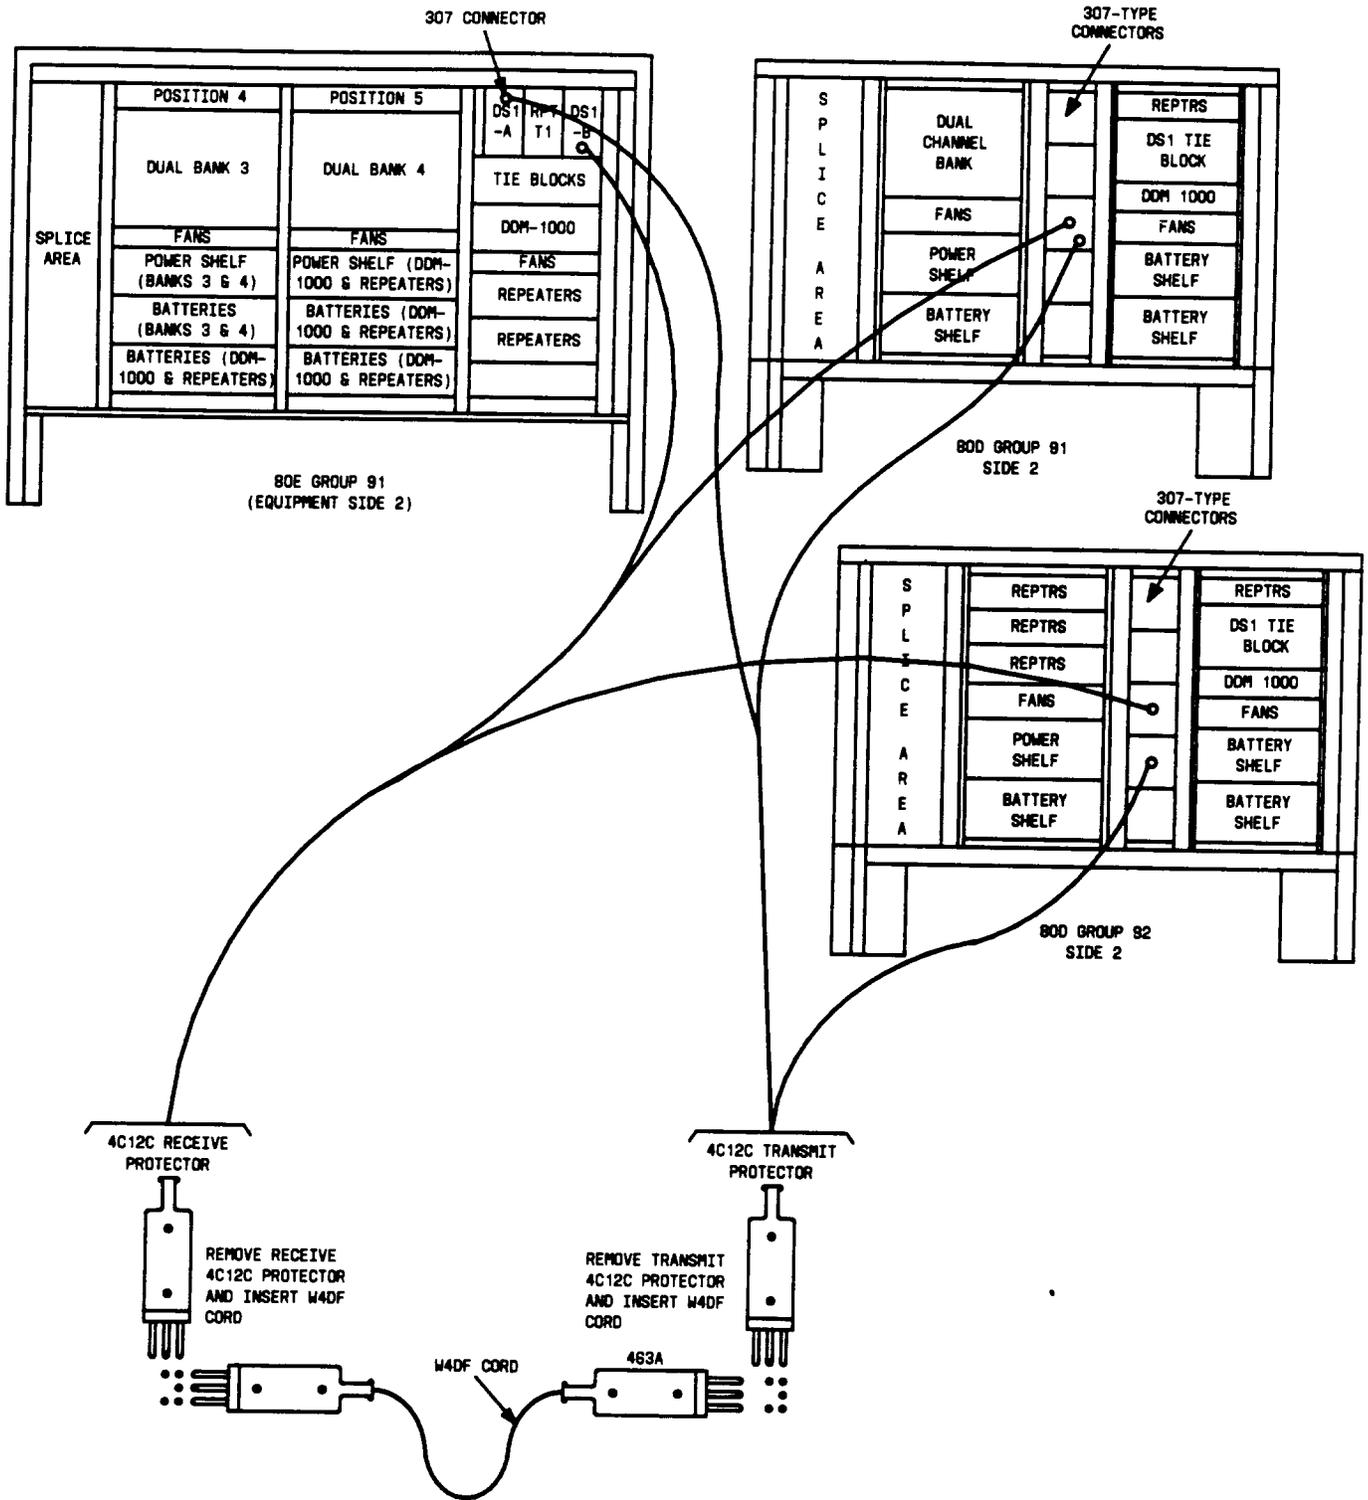

Fig. 7—DSX-1 Level Access T1 Line Loopback For Far Ended Fault Locating
10. Use Table A, B, or C to find 4C12C (DSX-1 level) protectors for digital line to be looped. Replace 4C12C protectors with W4DF looping test cord (See FIG. 7). Insert 262C fault line terminating plug into appropriate FL jack on LDU unit.